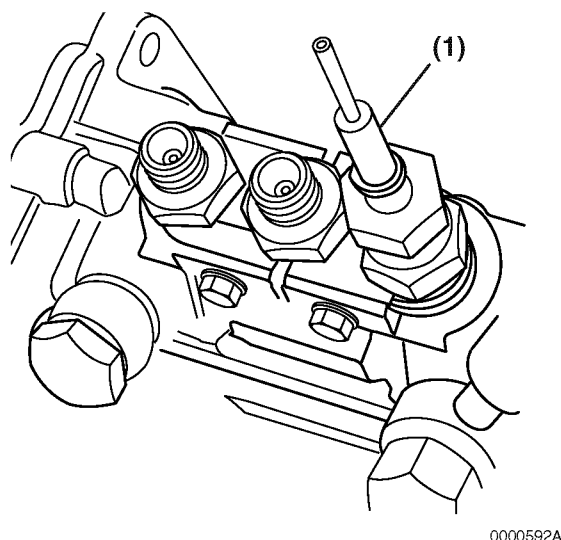

Figure 7-24
13. Install the “spill-timing” tool (**Figure 7-24, (1)**) onto the delivery valve for the cylinder being checked. *See Measuring Instruments on page 7-8.*